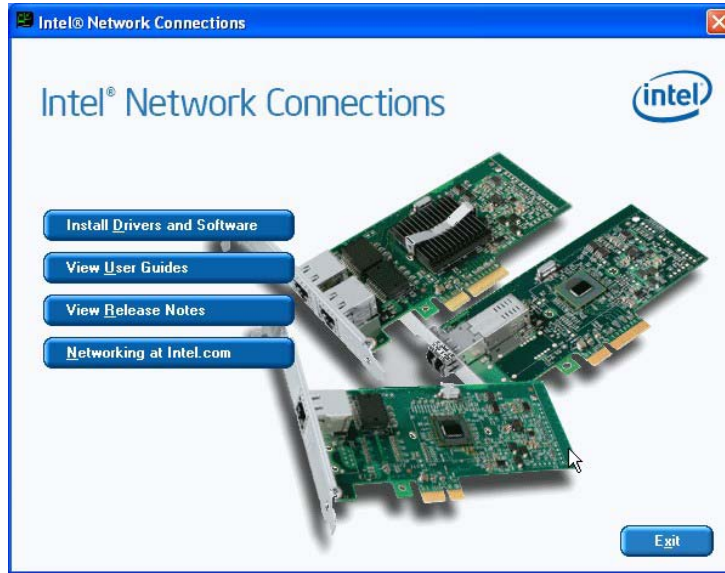

Figure 6-15: Intel® Network Connection Menu
- Step 4:** The Intel® Network Connection menu in **Figure 6-15** appears.